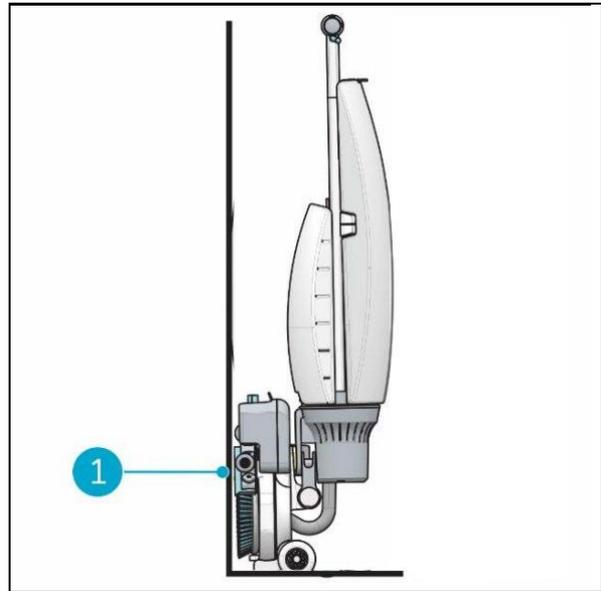

Figure 24
3. Store the imop Lite close to a wall (Figure 24, pos 1) with the handle pointing facing away from the wall and the brushes towards the wall.